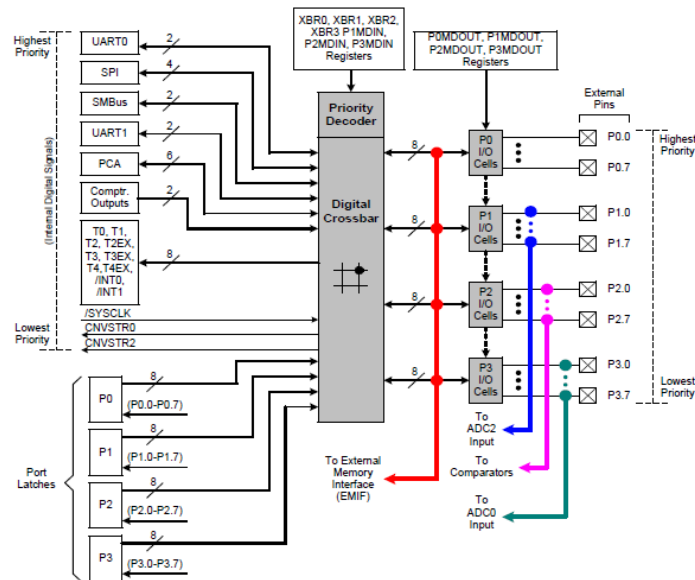

Figure 17.2. Port I/O Functional Block Diagram
- Read Figure 17.2 of C8051F040 spec